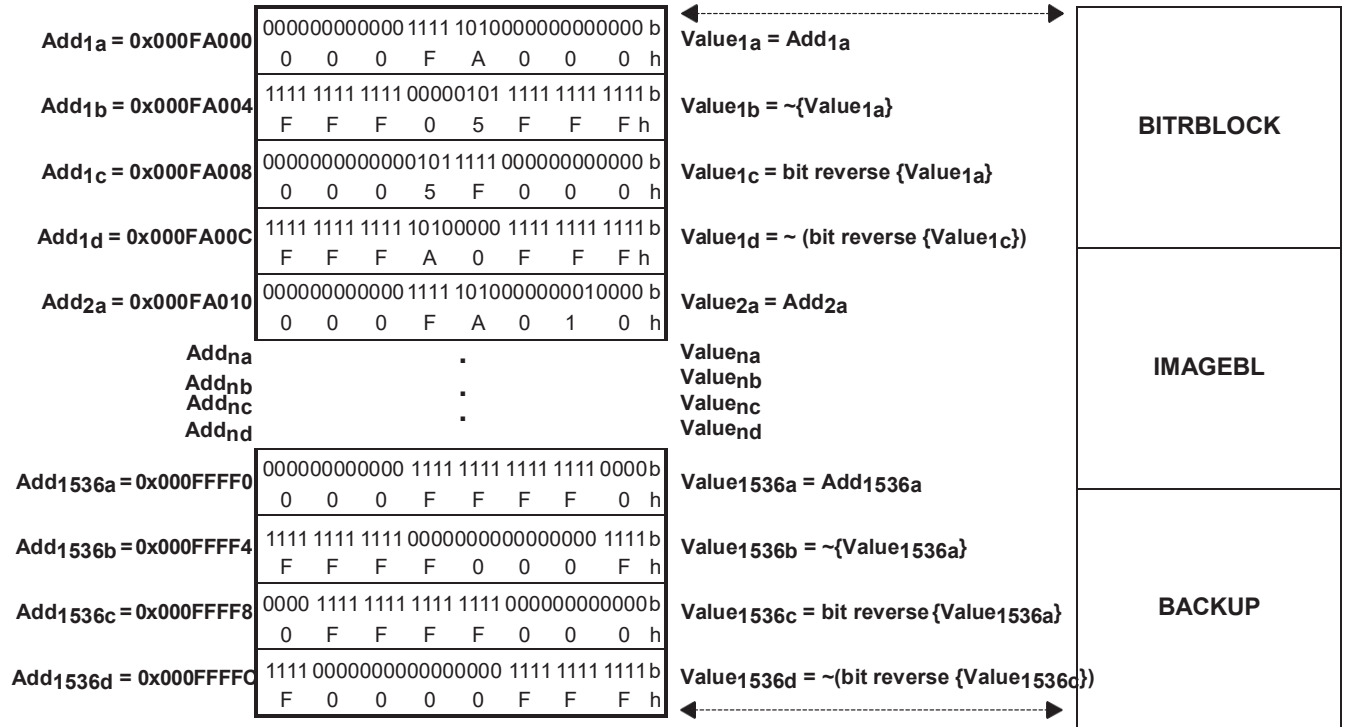

Figure 3. Buffer Test
1. Save the 32 bits address number  $Add_{na}$  (see Figure 3) at the address  $Add_{na}$ . When  $n$  equals 1,  $Add_{1a} = 0x000FA000$ .
6. Compare the address number  $Add_{na}$  (see Figure 3) with the value contained at the address  $Add_{na}$  ( $Value_{na}$ ). When  $n=1$ ,  $Value_{1a} = 0x000FA000$ .